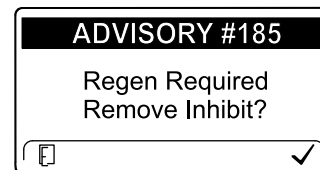

Figure 12
**Note:** If you set the InfoCenter to inhibit regeneration, the InfoCenter displays ADVISORY #185 (Figure 12) every 15 minutes while the engine requests a reset regeneration.